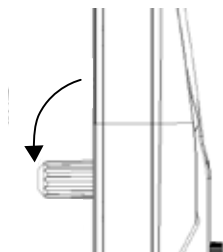

Fig.6
1. Tilt the CO₂ cartridge sheath in the cover downwards to a maximum angle of 90° and unscrew the housing (Fig. 6).